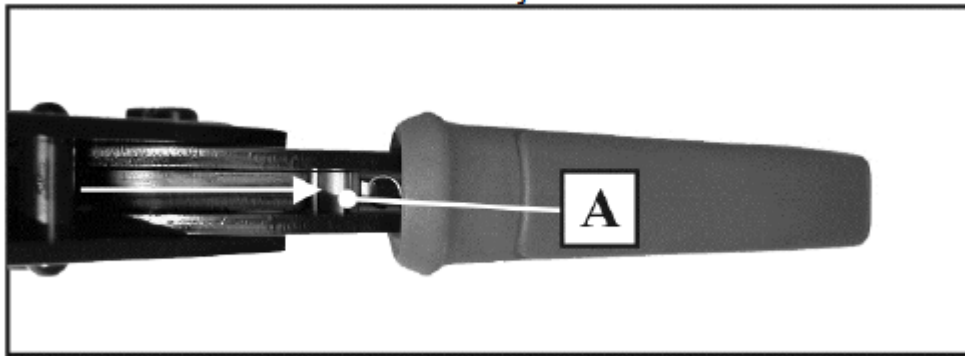

Figure 7
Using small screwdriver or similar tool, push the ratchet relief (A), located inside the moving handle, (Fig. 7.) in the direction as shown to unblock the tool. Remove obstruction before continuing with the work.